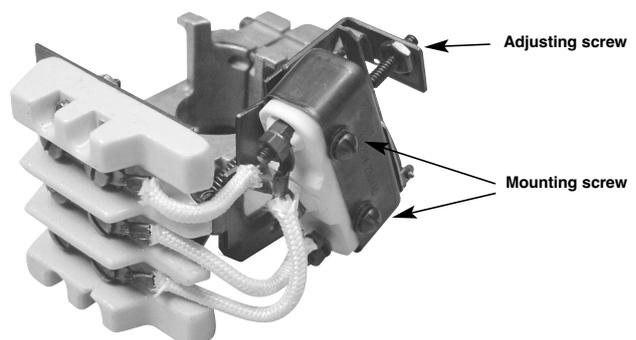

Figure 11
4. Remove two mounting screws holding existing switch, refer to Figure 11.
- c. If switch actuation is not correct, change adjustment of actuating screw using a 1/16" hexagon key wrench, refer to Figure 11.